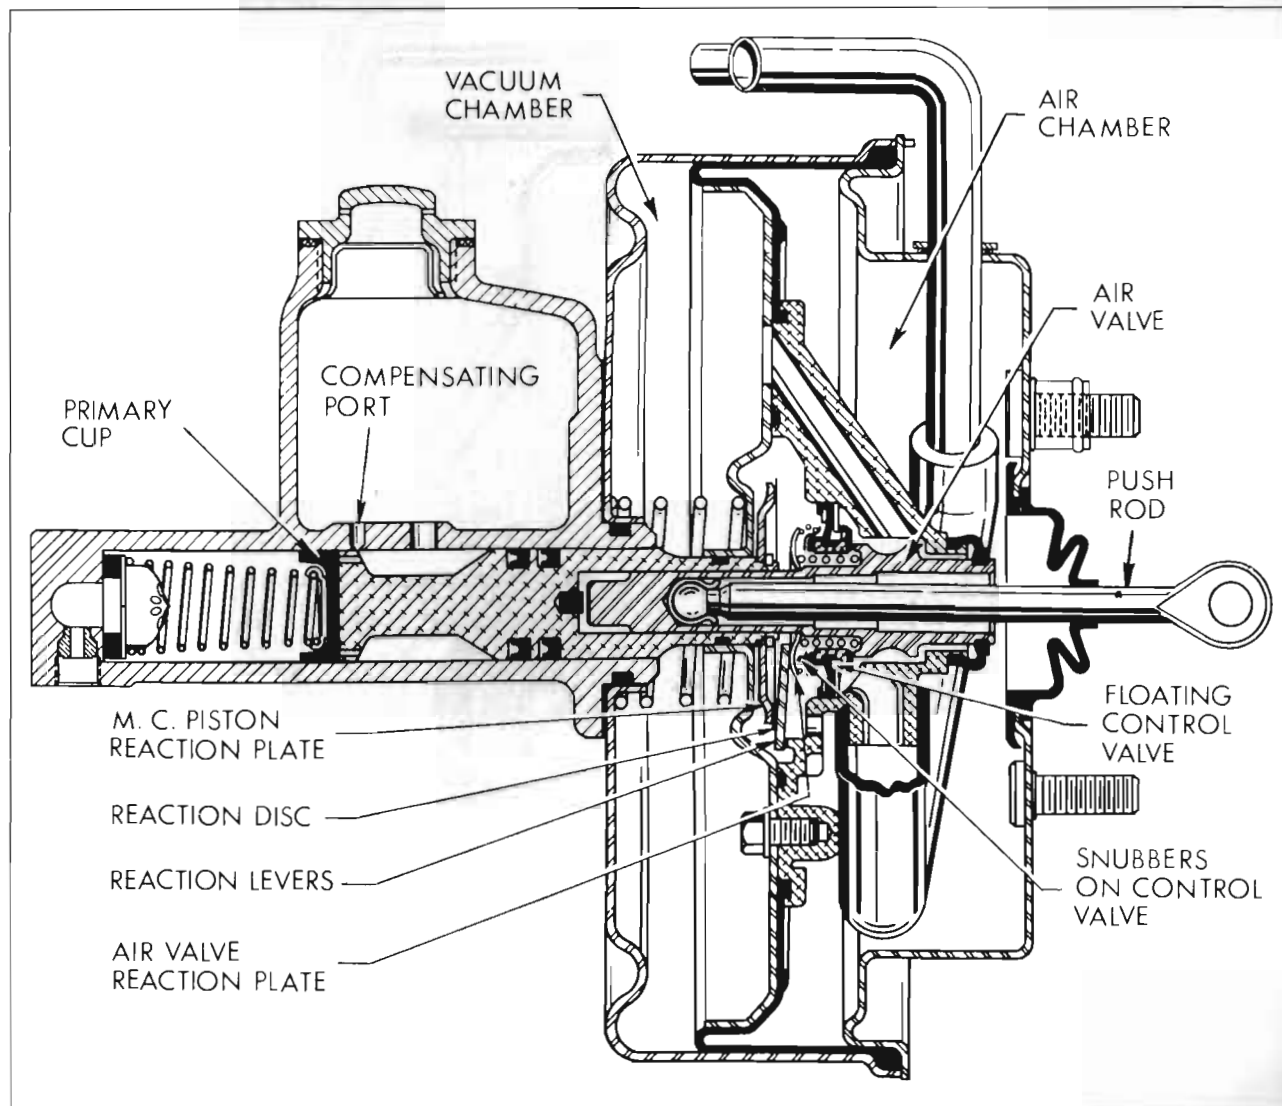

Figure 9-14—Applying
(2) *Applying.* See Figure 9-14. As the brake pedal is depressed, the push rod moves the air valve forward until its annular seat contacts the floating control valve, at which point atmos-
(3) *Reaction Pressure*. As soon as pressure starts to build up in the hydraulic system, the pressure on the end of the master cylinder piston causes the master cylinder piston reaction plate to move away from its stop and press against the reaction discs and the reaction levers. The levers in turn swing around their pivots in the power piston and push the air valve reaction plate back against the floating control valve snubbers. See Figure 9-14.